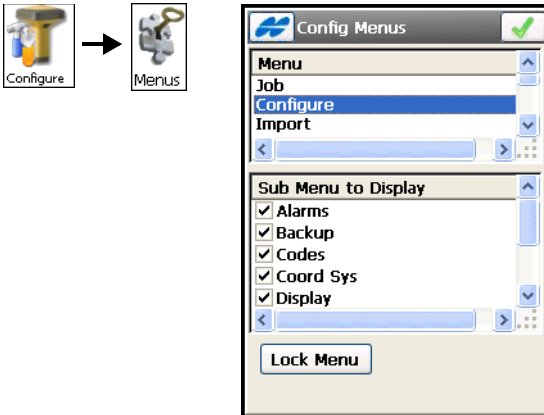

Figure 4-105. Config Menu
2. On the *Config Menu* screen (Figure 4-105), select the desired menu from the Menu list and choose the necessary options from the **Sub Menu to Display** list.